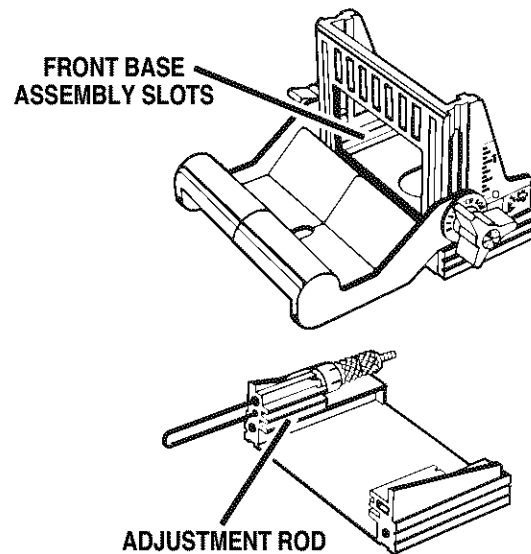

Fig. 30
- Clean wood particles and resin from slots and surrounding areas on front and rear base assemblies. See Figure 30. Apply a thin coat of general purpose grease in slots or on bearing plate where base slides.